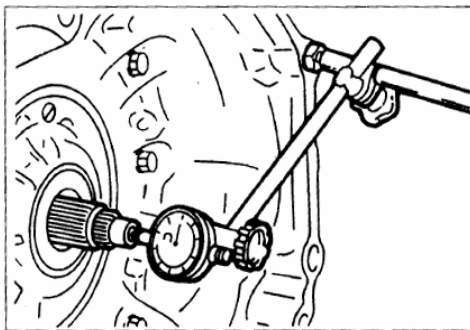

Fig 11A-7
- (1) Remove the torque converter.
- (2) Use the dial gauge to measure the input shaft end play. See Fig.11A-7.